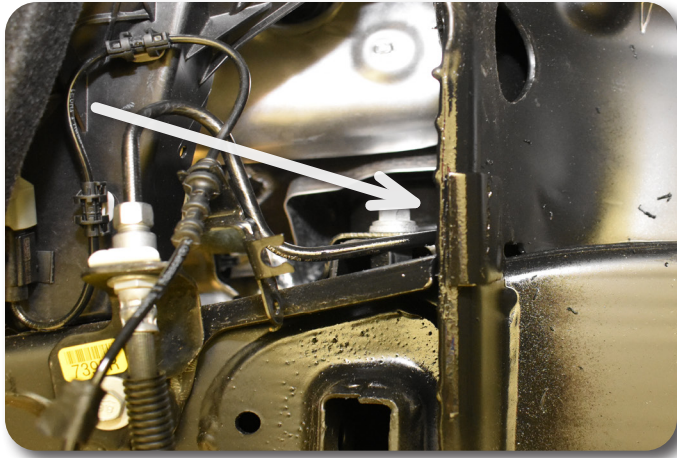

Figure 15
19. The new replacement control arm assemblies have a larger profile than the OEM assemblies. They are also designed with a wider range of available travel. Due to these unique differences, the tab on the side of the strut bucket must be removed to avoid interfering with the proper function of the new control arm assembly. Cut the tab from the side of the strut bucket as shown in **Figure 15**.